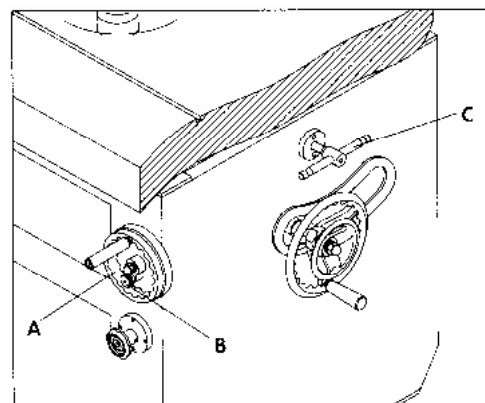

Fig.3.21
2. Loose the knob (B) Fig. 3.21 on the handwheel (A).
3. Loose the two locking handles (C) on the both sides of machine.
4. Turn the handwheel (A) to the required tilting degree and position.
5. Tighten the knob (B) and locking handles (C).